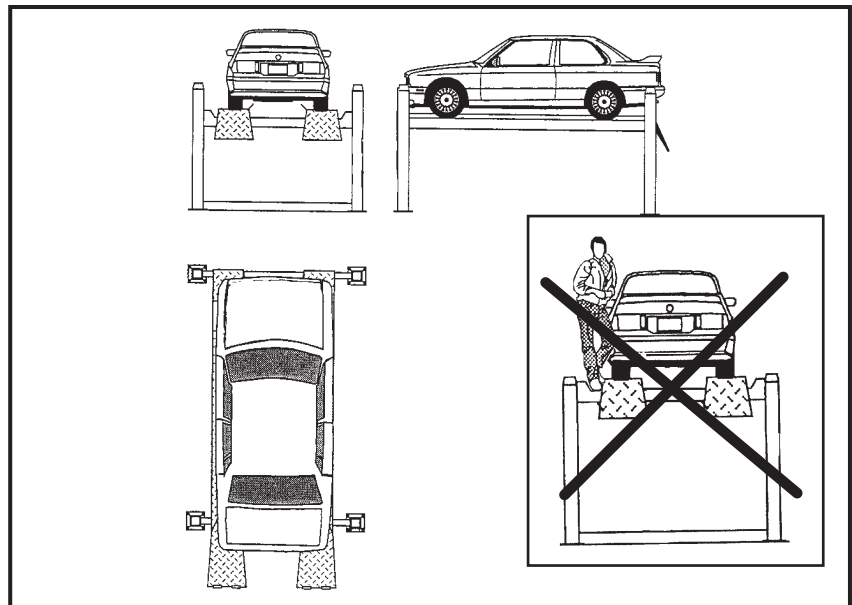

Fig.19 Correctly positioned vehicle
- make sure the vehicle is positioned correctly (see Fig.19);
- make sure that there are no persons on the platforms during up and down movements and during standing (Fig.19).